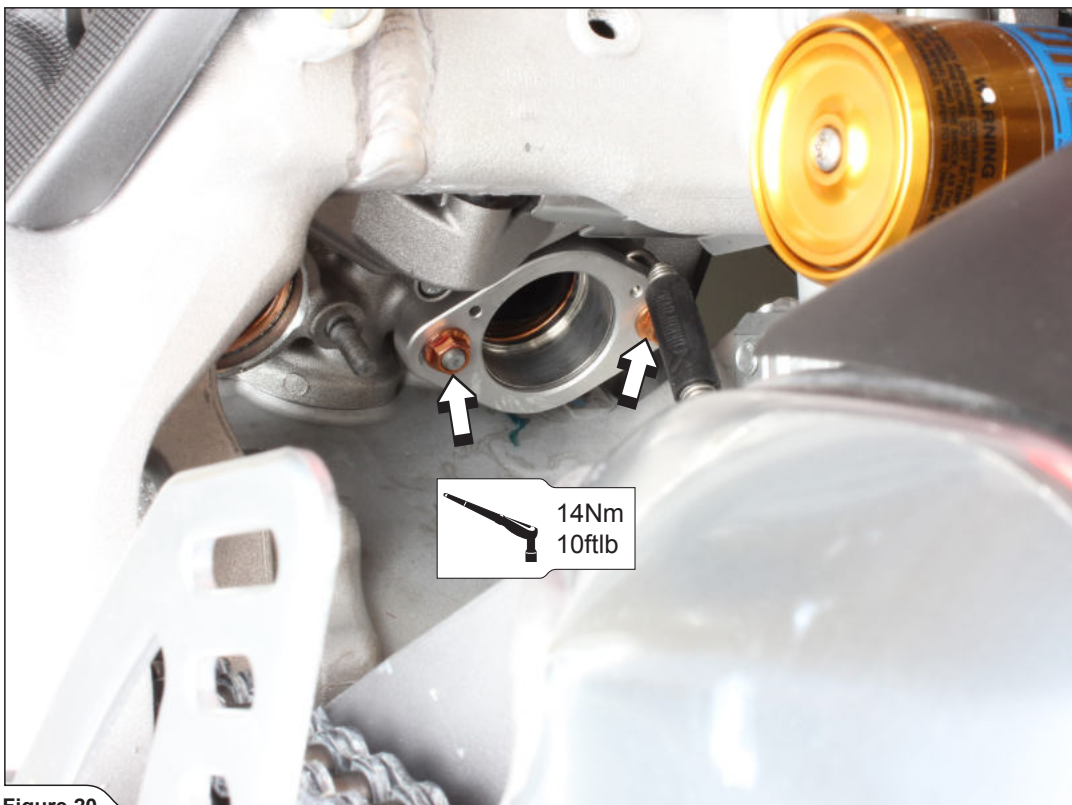

Figure 20
4. Set up and tighten the (rear right only!) header's flange together with the spring and sleeve onto the rear right cylinder head outlet, using stock nuts; make sure you orient the flange and spring as shown (Figure 20).